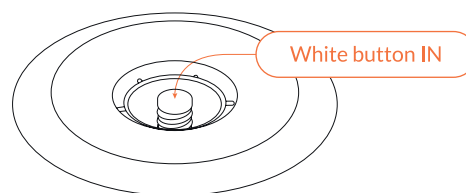

Fig 75 – One way inflation valve open to release air
2. Deflate the Air Toggle that links the platforms by pressing the white button in the centre of the valve until it stays down (Fig 75). The air will be released.